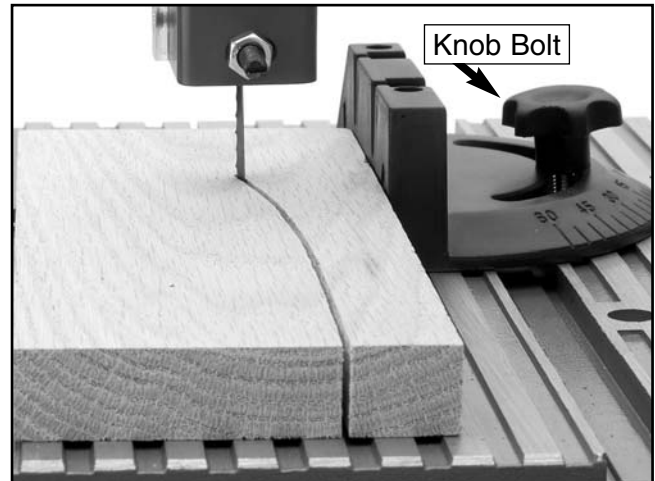

Figure 33. Blade leading away from line of cut.
It is common for a bandsaw blade to wander off the cut line when sawing (**Figure 33**). This is called “blade lead.”
5. Loosen the knob bolt that secures the fence angle position (**Figure 33**).